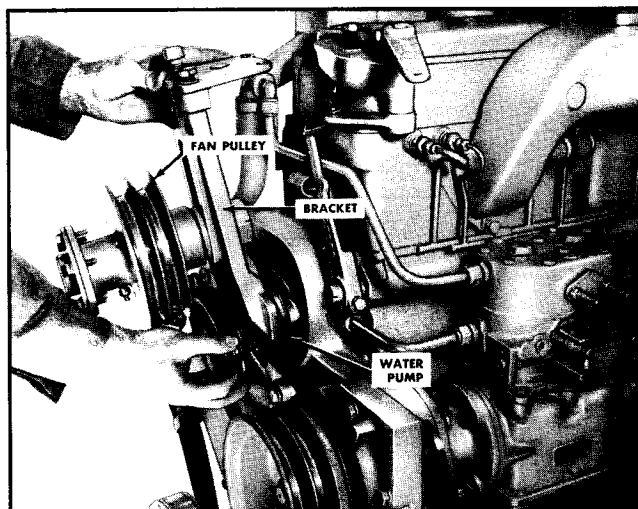

Fig. 4-5. Mounting water pump and fan bracket
3. Turn the water pump to the low point of its eccentric and install in place in the cylinder block. Secure lightly with capscrews and lock-washers. Fig. 4-5.